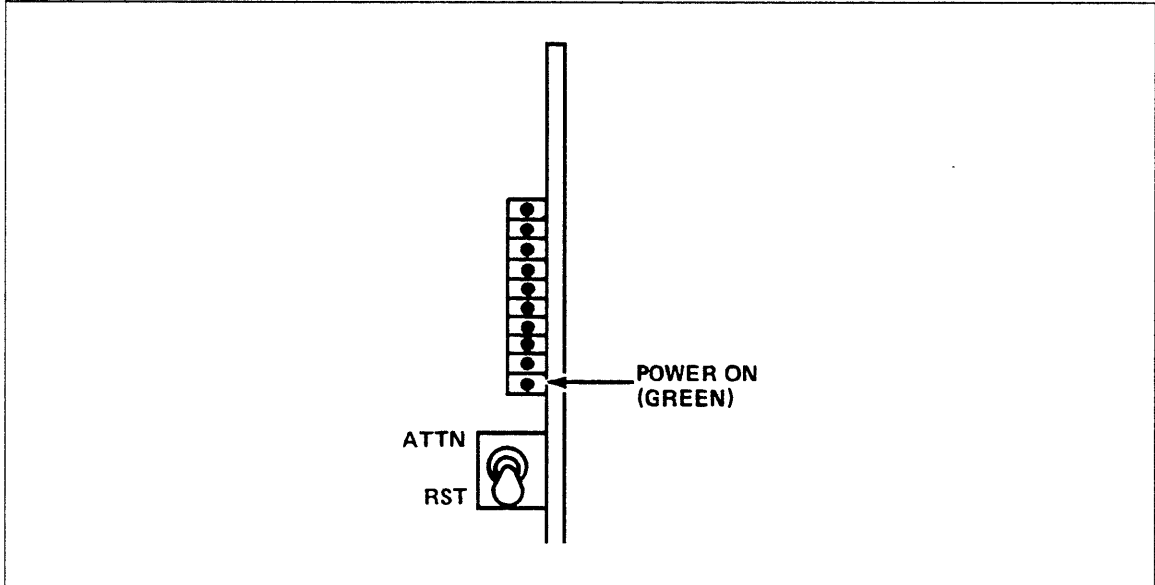

Figure 3-17. MPB Power Indicator
7. Check that Power On indicator (green) on MPB is lit (figure 3-17). If that indicator is not lit: